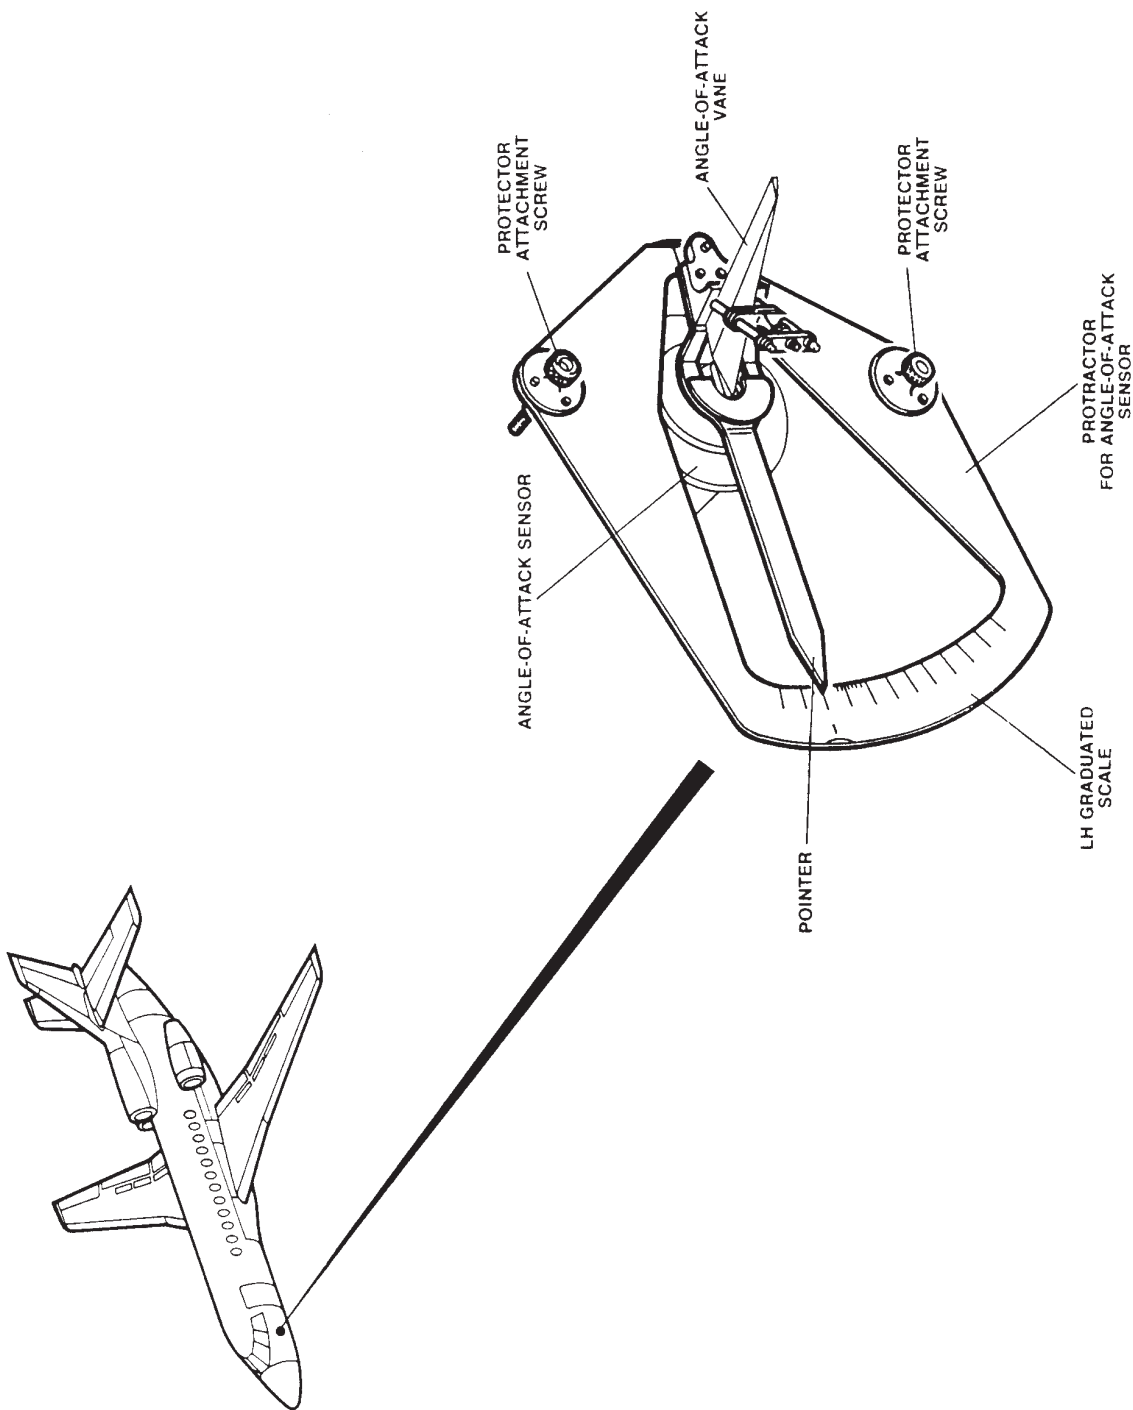

FIGURE 1: CHECK OF ANGLE-OF-ATTACK SENSOR DEFLECTION
- (1) Slowly move the pointer support (Refer to Dassault OEM procedure 27-801 C Figure 1) to increase the LH AoA sensor angle (L11CM).
- (2) Make sure that when angle 14° ± 30' is reached:
- (3) On configuration panel (2DL), once the outboard slats are fully extended, make sure that:
- (4) Select an IAS > 265 kt on the pilot air pressure systems.
- (5) Select an IAS < 265 kt on the pilot air pressure system.
- (1) Maintain LH AoA at an angle of $14^{\circ} \pm 30'$. Make sure that outboard slats remain extended.
- (2) Slowly move the pointer support (Refer to Dassault OEM procedure 27-801 C Figure 1) to increase the RH AoA sensor (R11CM) angle to an angle of $17^{\circ} \pm 30'$ and make sure that: